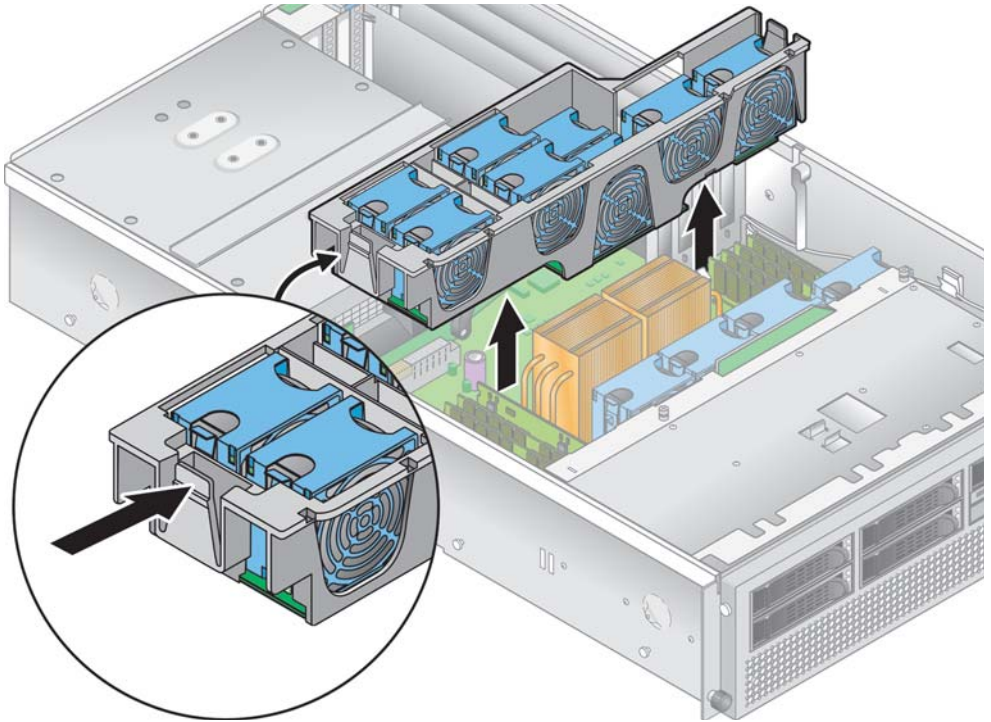

FIGURE 5-22 Removing the Rear Fan-Cage Assembly
3. **Squeeze the retainer clips on each end of the fan cage inward (see FIGURE 5-22)**